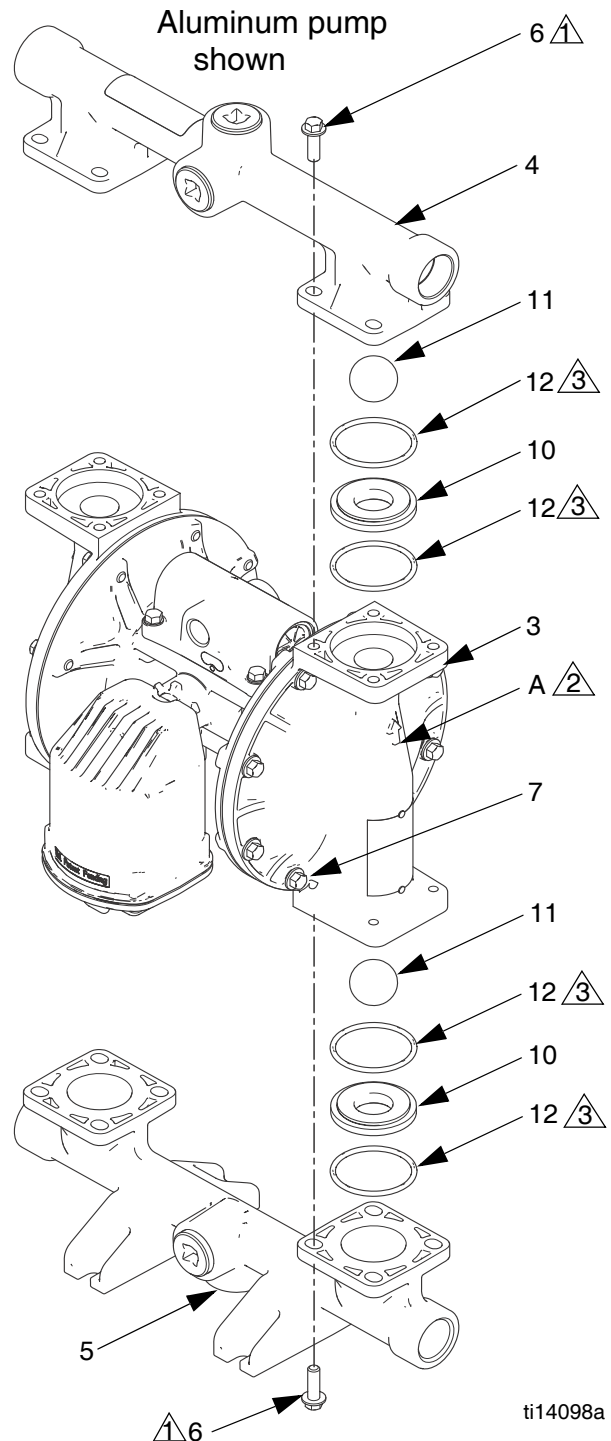

FIG. 6. Ball check valve assembly
3. Use a 10 mm socket wrench to remove the outlet manifold fasteners (6). See FIG. 6.
4. Remove the o-rings (12, *not used on some models*), seats (10), and balls (11).
5. Turn the pump over and remove the inlet manifold. Remove the o-rings (12, *not used on some models*), seats (10), and balls (11).
2. Reassemble in the reverse order, following all notes in FIG. 6. Be sure the ball checks (10-12) and manifolds (4, 5) are assembled **exactly** as shown. The arrows (A) on the fluid covers **must** point toward the outlet manifold (4).
- ➡ Arrow (A) must point toward outlet manifold.